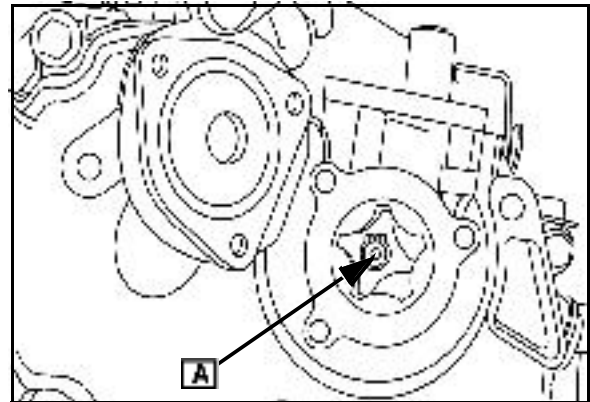

Fig. 10
2. Remove snap ring ([A] Fig. 10) retaining inner rotor to shaft.